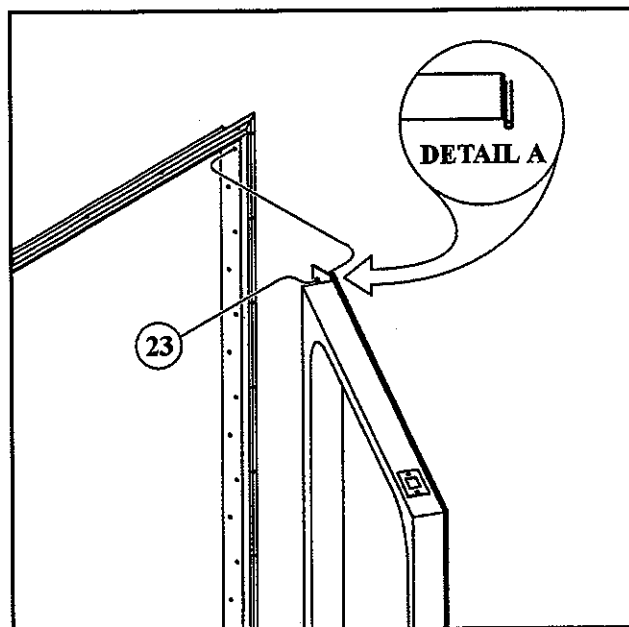

Figure 8—Door Hinge
Remove 27 screws (23) from door hinge. (See Figure 8—Door Hinge.)